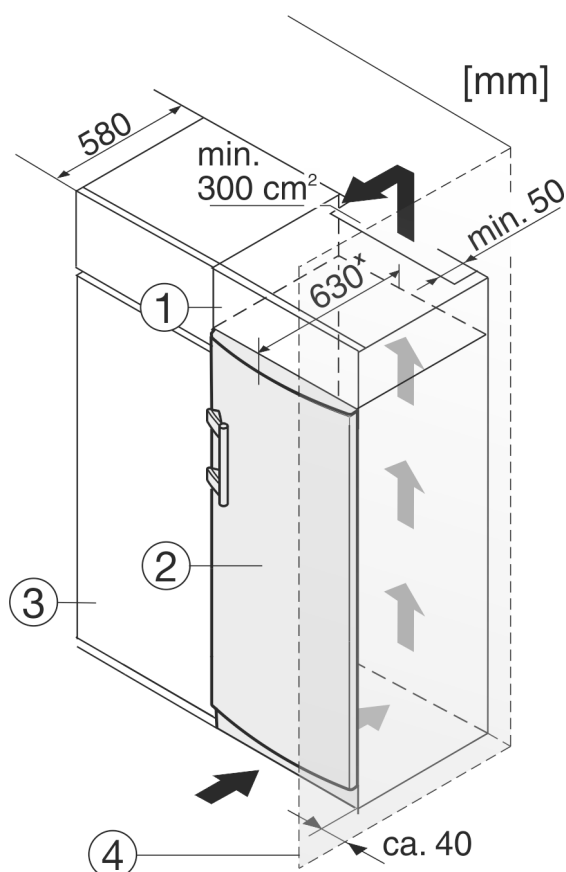

Fig. 10
The appliance can be built into kitchen units. A top cupboard *Fig. 10 (2)* can be added above the appliance in order to bring the appliance *Fig. 10 (1)* up to the height of the fitted kitchen units.
When fitting kitchen cupboards around the appliance (max. depth 580 mm), you can install the appliance directly next to the kitchen cupboard *Fig. 10 (3)*. The appliance protrudes 34 mm x to the side and 50 mm x in the centre of the appliance in relation to the kitchen cupboard front.
If the appliance is set up with the hinges next to a wall *Fig. 10 (4)*, the distance between the appliance and the wall must be at least 40 mm. This is how far the handle protrudes when the door is open.